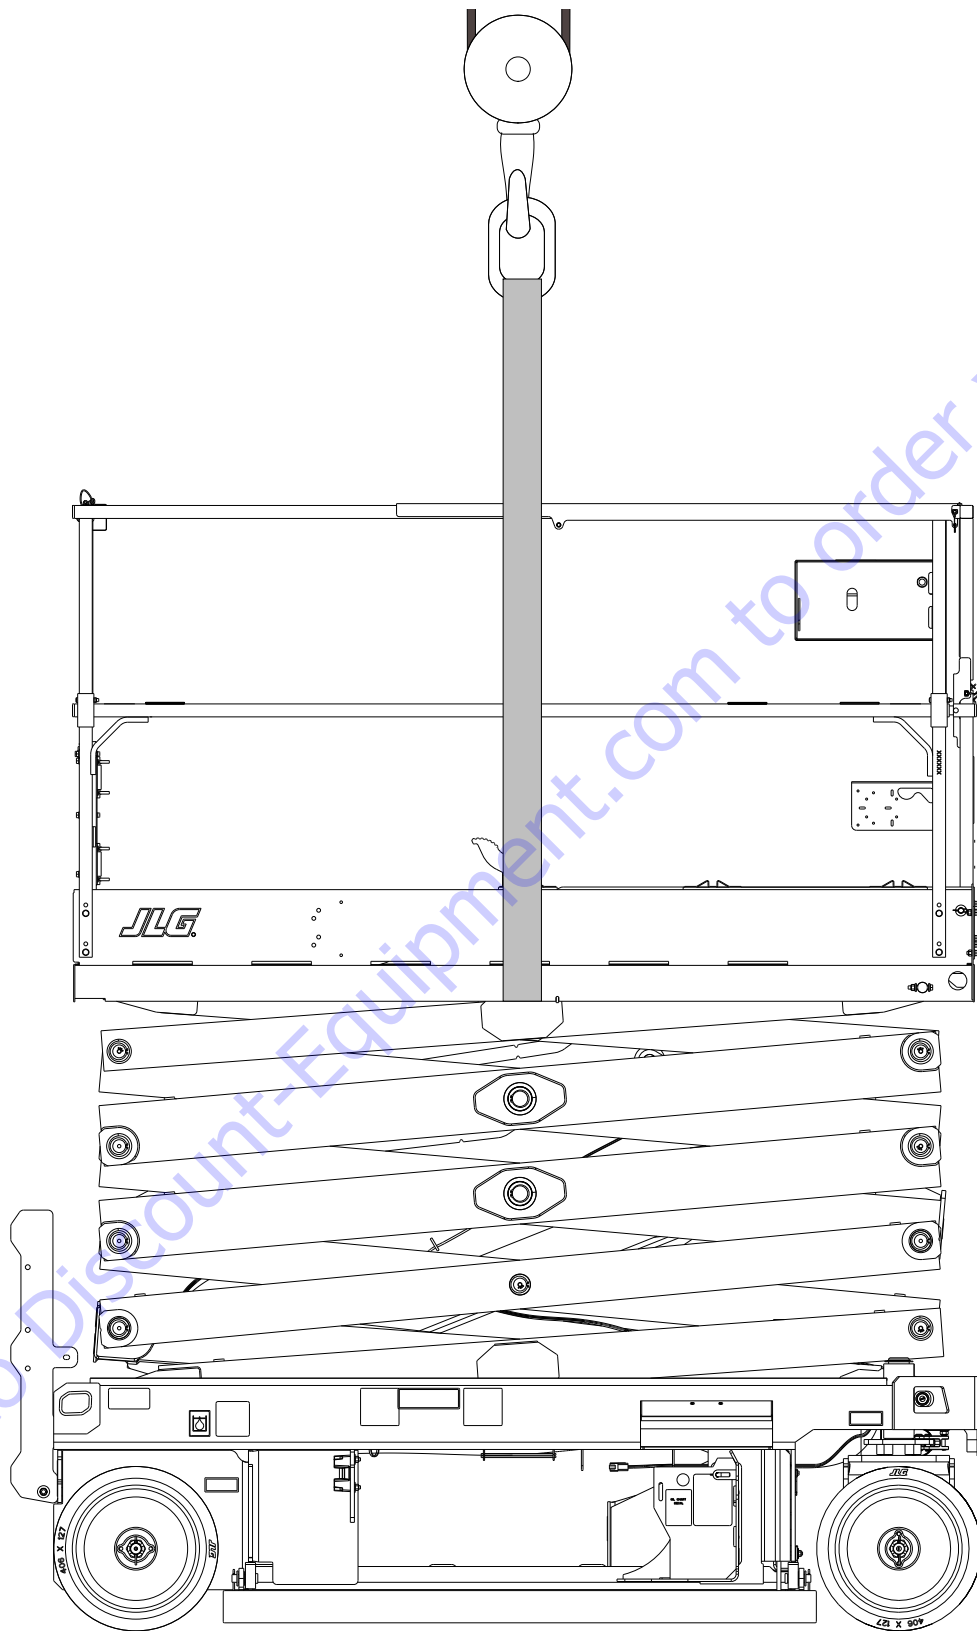

Figure 3-28. Arms and Platform Positioning with Overhead Support
The arm stack can be supported by using an overhead crane, (See Figure 3-28.). If an overhead crane is not available the stack may also be lifted by using a fork-truck using the following instructions:
1. Support the platform using an overhead crane with straps capable of lifting at least 500 lbs (227 kg) (See Figure 3-28.).